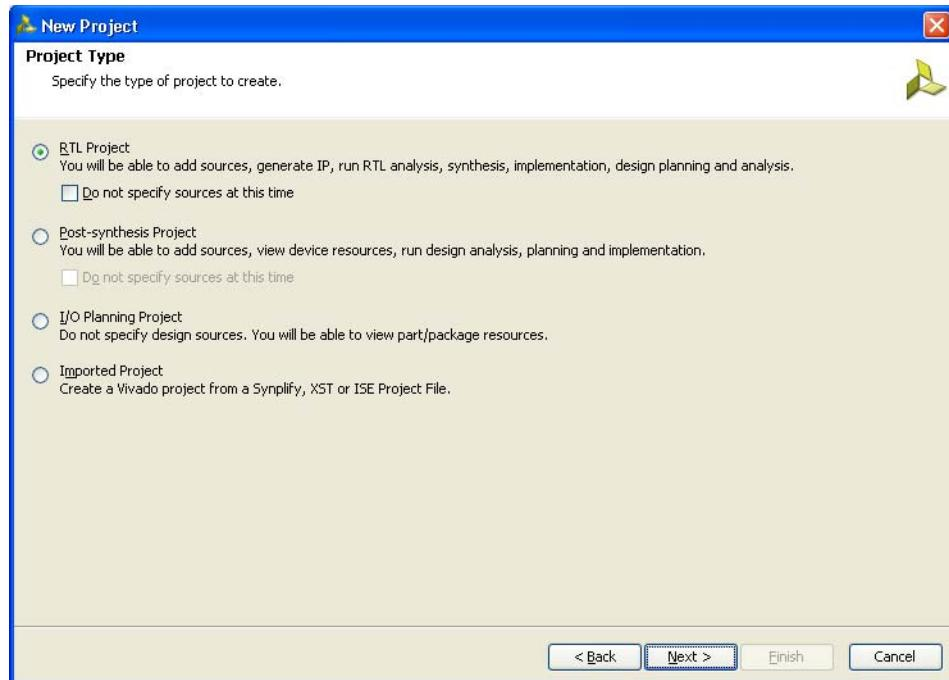

Figure 1-4: Project Type
4. Click **Next** to proceed to the **Project Type** page (Figure 1-4). Select the **Project Type** as **RTL Project** because MIG deliverables are RTL files.